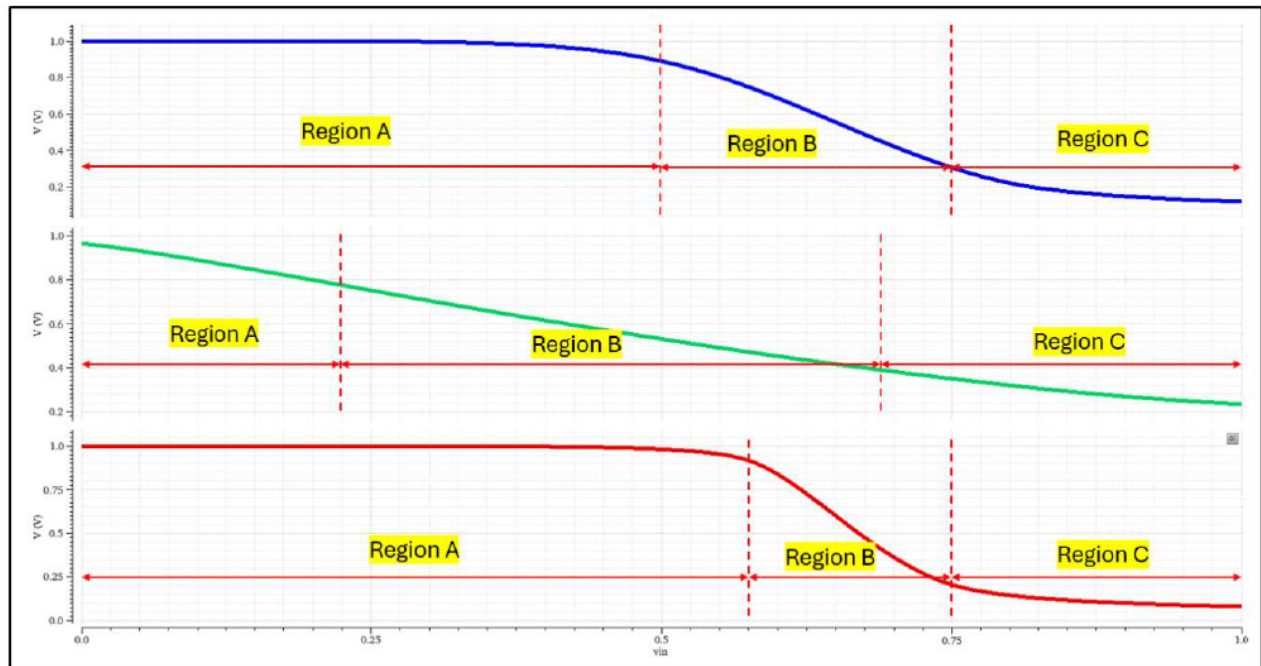

Figure 5. IN-OUT response of an amplifier with CS topology
- Determine the operating region of transistor M1 at Region A, Region B and Region C in Figure 5.